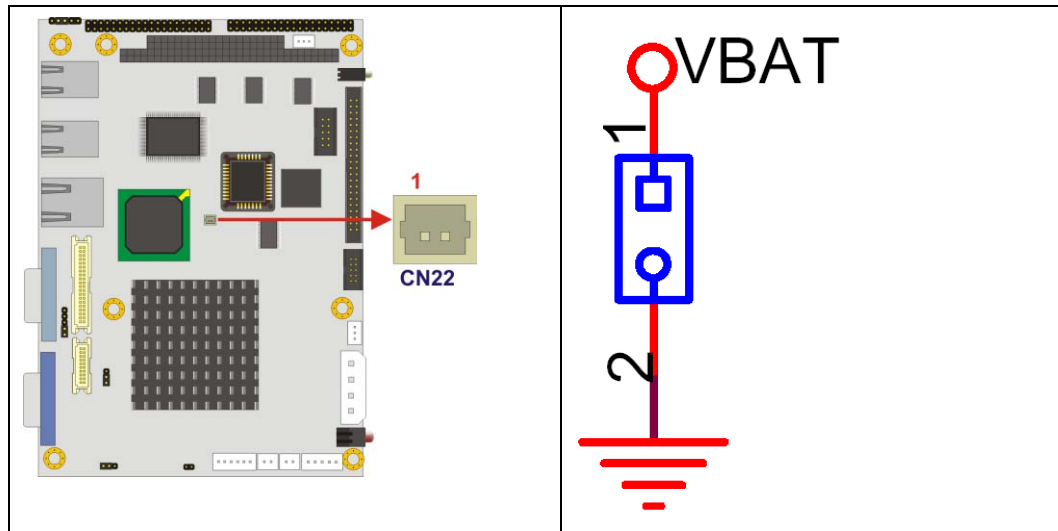

Figure 4-7: Battery Connector Location
- CN Location:** See Figure 4-7